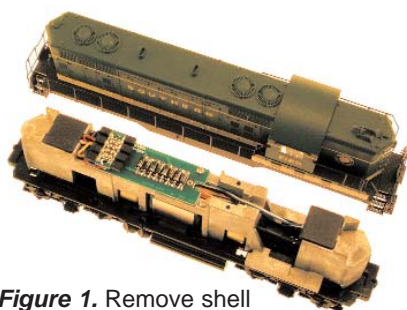

Figure 1. Remove shell
1. Remove locomotive shell, noting the orientation of the circuit board inside. (*Figure 1*)